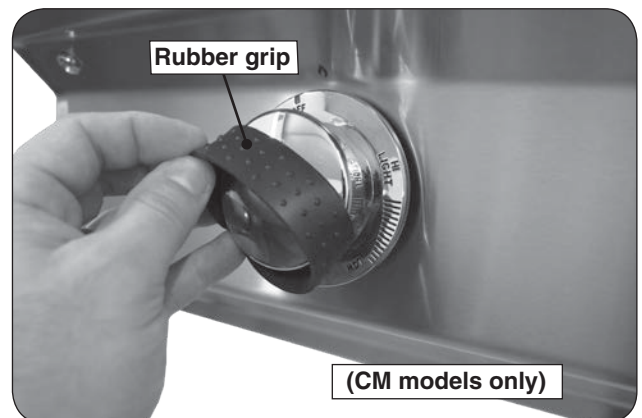

Fig. 23-3 Remove rubber grips (if applicable)
2. For CM models, remove the rubber grip from the control knob (see Fig. 23-3).